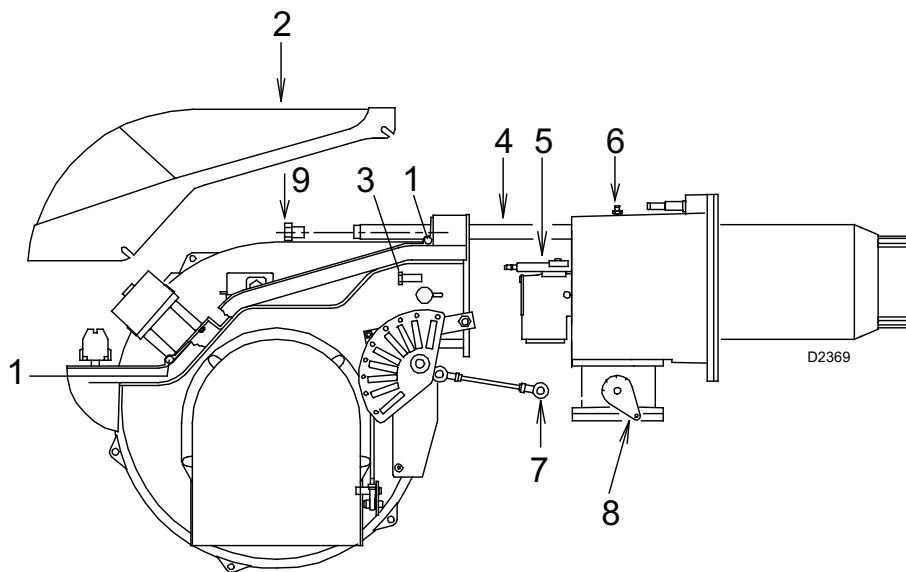

Fig. 37
- Loosen the 4 screws 1)(Fig. 37) and remove the cover 2).
- Replace the screws 3)(Fig. 37) and carefully pull the probe and electrode cables outwards until they are slightly taut.